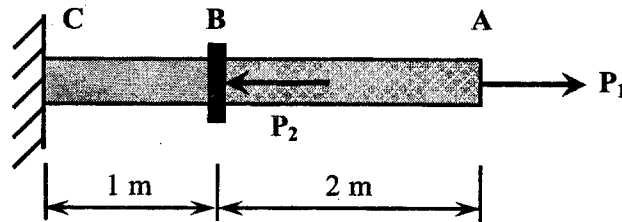

Figure Q4[a]
- Q4. [a]** The assembly consists of an aluminium rod AB and a steel rod BC, each having a diameter of 25 mm. The Young's modulus of elasticity for the aluminium and steel are 70 GPa and 210 GPa, respectively. The unstretched length of each segment is shown in the Figure Q4[a]. Neglect the size of the connection at B, and assume that it is rigid.